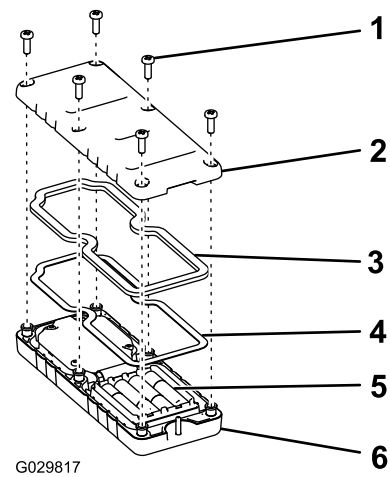

Figure 6
3. Ensure that the steel gasket and rubber seal are seated in the channel in the remote and set the back cover in place (Figure 6).
4. Secure the cover with 6 screws (Figure 6) and torque them to 1.5 to 1.7 N-m (13 to 15 in-lb).
2. Plug each battery into a terminal cradle observing proper polarity (Figure 6).